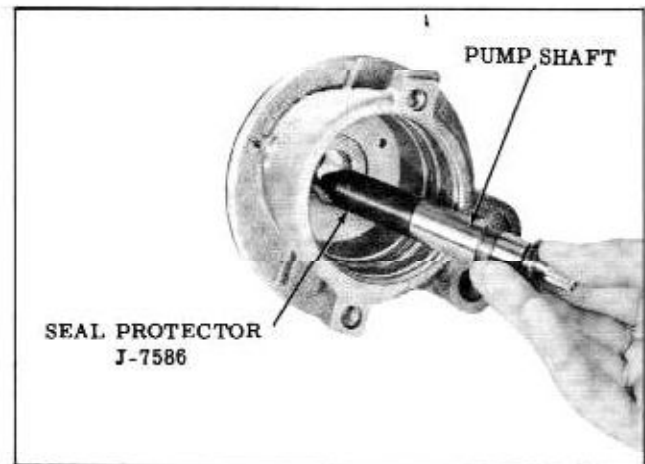

Fig. 4-29 Installing Pump Shaft
3. Place Seal Protector J-7586 over the threaded end of the shaft, then install the shaft in the pump body. (Fig. 4-29) Remove protector.